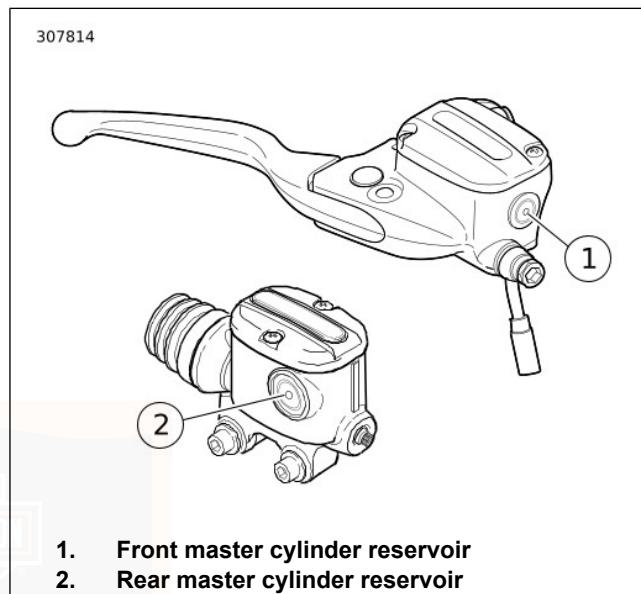

Figure 78. Sight Glass Minimum Marks
2. See Figure 78. View reservoir sight glass. Fluid level must be at or above the minimum mark on glass. If fluid level is below minimum mark, see a Harley-Davidson dealer.